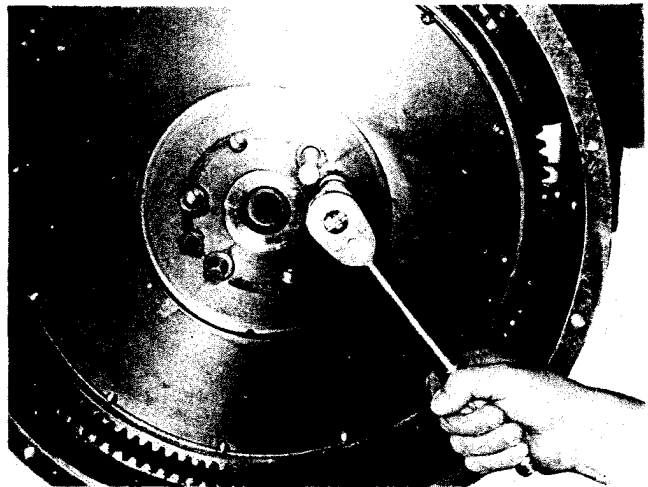

Fig. 0-27, (N100113). Removing flywheel
2. In two holes provided, place 1/2"-13 cap screws, threaded their entire length, to act as jack-screws. Turn in cap screws alternately to pull flywheel from crankshaft. Fig. 0-27.